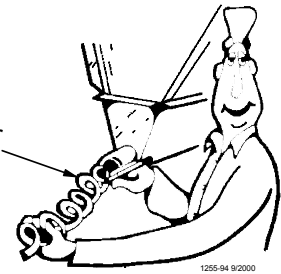

Figure 37. Marking the Relaxed Auger
7. Pull the auger at the boot end until it begins stretching then let it relax. In the relaxed position, mark the auger at the end of the boot. **See Figure 37.**